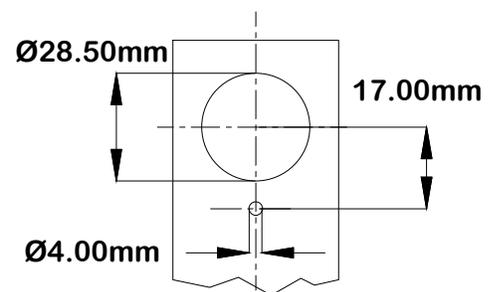

Figure 2: Hole diagram
- You will need to fabricate a mounting bracket to hold the Sensor in place. Should you choose to mount the Sensor using the CS-6000 Clamping Sleeve provided with each PCS-100 System, drill holes in your bracket per Figure 2.